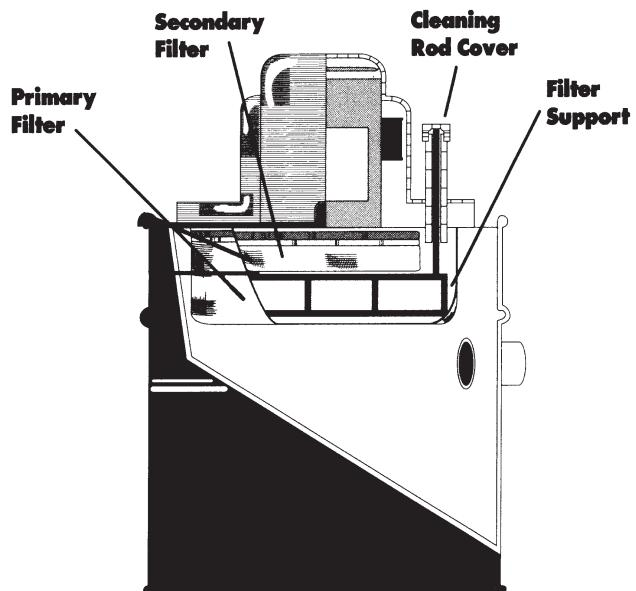

Fig. 2
**STEP TWO:** Take the rod of the filter support basket and slide it through the small hole in the lid. The filter support basket should be between the primary and secondary filters. Take the larger, primary filter **with the stamped side IN**, and place it over the filter support basket (part #9p23) and fasten it securely with the 10" clamp to the base of the lid. **NOTE:** The primary filter's bottom seam and the filter support basket should line up and cross the center of the lid. Where the filter attaches to the lid, there should be a minimal amount of wrinkles. The filter and lid should look like Fig. 2 when completed. (**NOTE: ALWAYS CHECK FILTER BEFORE EACH USE TO ENSURE THAT IT FITS SNUGLY IN PLACE AND IS IN GOOD CONDITION.**)
- The primary and secondary filters may be cleaned without removing the lid. Agitation of the filter support basket, located between the primary and secondary filters allows both filters to be cleaned without removing the lid. (Fig. 2)